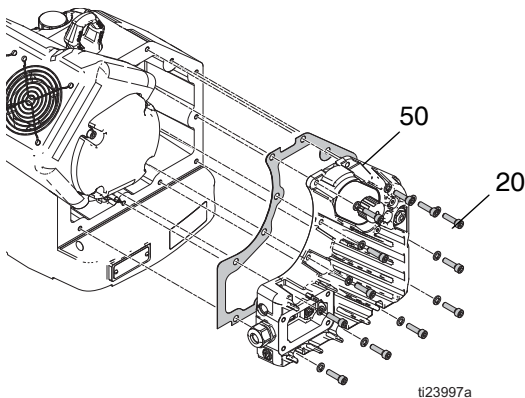

FIG. 30: Electronics Cover Removal
3. Install the electronics cover (50) and tighten all 12 screws (20). Torque to 15-20 ft-lb (20-27 N•m). See FIG. 30, page 28.
3. Remove all 12 screws (20) and washers from the electronics cover (50). See FIG. 30, page 28.